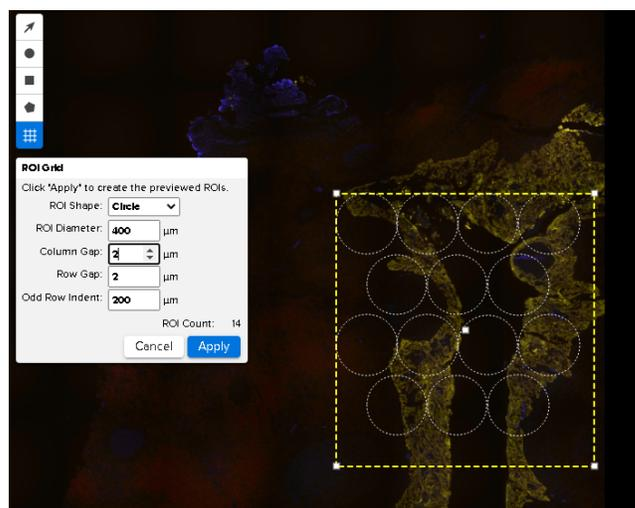

Figure 33: Grid ROIs tool
1. Select the **Grid ROIs tool** in the Scan Workspace (Figure 33).
2. Select the **ROI shape** (circle or rectangle), **diameter**, and **column gap** (distance between each column of ROIs), **row gap** (distance between each row of ROIs), and **odd row indent** (to indent every other row, as in Figure 33).